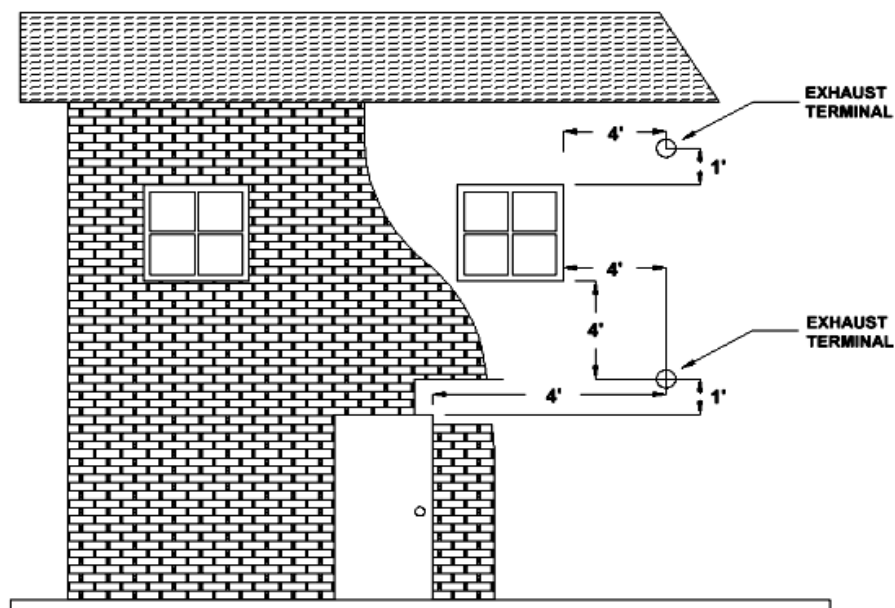

Figure 9
- a. **Without** Outside Air connected to the unit. For These types of installations please refer to the dimensions listed below in figure 9.